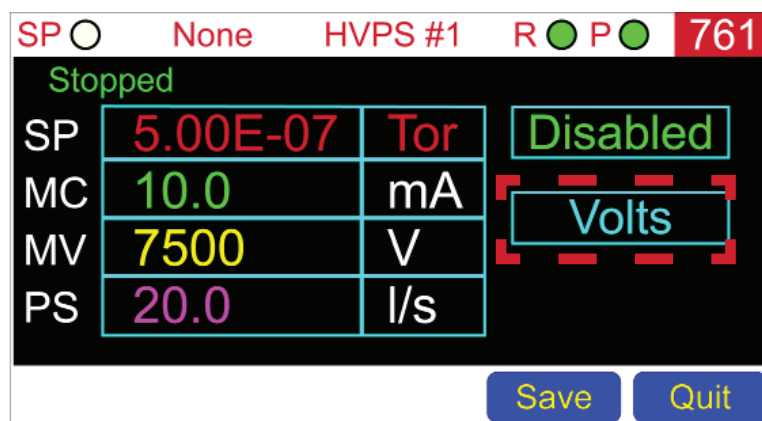

Figure 22. Analog output toggle button
1. Tap **Config** to enter Configuration display (See Figure 22)
2. Tap the HVPS green area on the Configuration screen to enter the channel configuration display (see Figure 22)
3. As shown in Figure 22, all the channel-specific parameters are available on screen